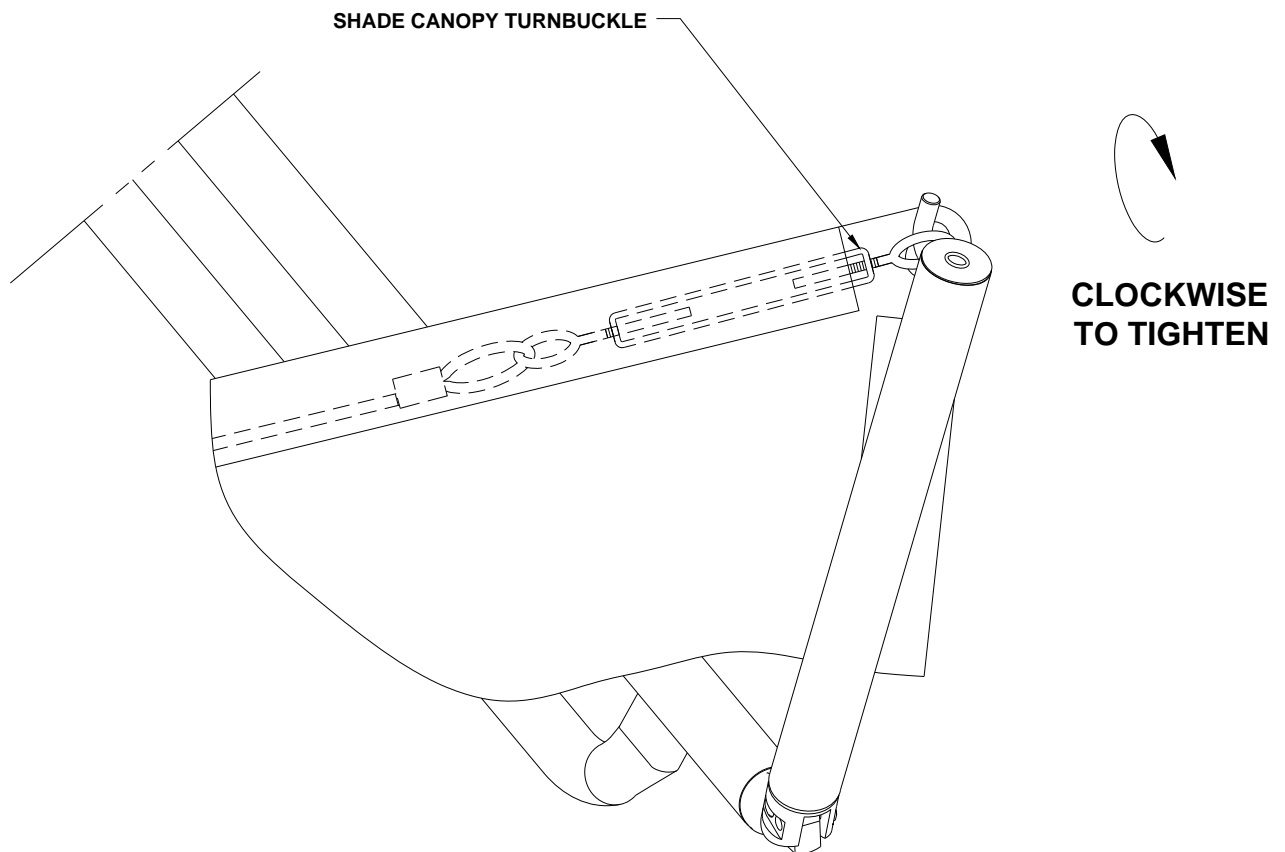

Figure 18: Tightening/Loosening Shade Canopy Turnbuckle
4. Lay ShadePlay canopy over rafters and orientate it so that each tensioning arm has a canopy corner. See Figure 18.
6. Continue to tighten canopy by carefully pulling tensioning arms down into 'Closed Position'. If canopy is too tight to pull arm down, loosen turnbuckle tension a small amount. See Figure 18.
*660 Van Dyne Road • P.O. Box 549 • Fond du Lac, WI 54936-0549 • (920) 921-9220 • 1-800-356-2070 • Fax (920) 921-9566*
7. After all tensioning arms are in 'Closed Position' look around canopy for major wrinkles in fabric. The majority of wrinkles can be removed by moving the tensioning arms back into the 'Open Position' and tightening each turnbuckle a small amount. Repeat this process, tightening the turnbuckles only a small amount each time until the major wrinkles are eliminated. Minor wrinkles will disappear with time in the environment and in the stretched state. Tighten all turnbuckles evenly to spread tension. See Figure 18.